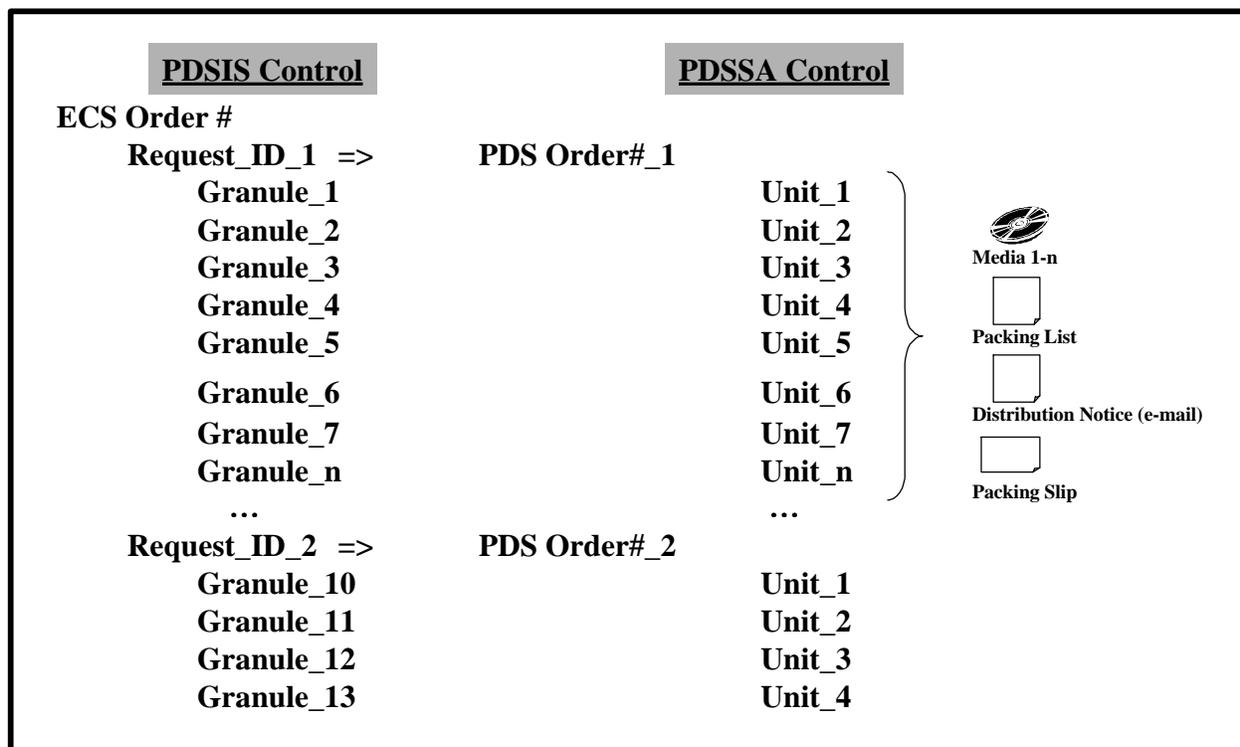

Figure 20. ECS to PDS Order Breakdown Structure
- ECS to PDS order breakdown structure is shown in Figure 20.